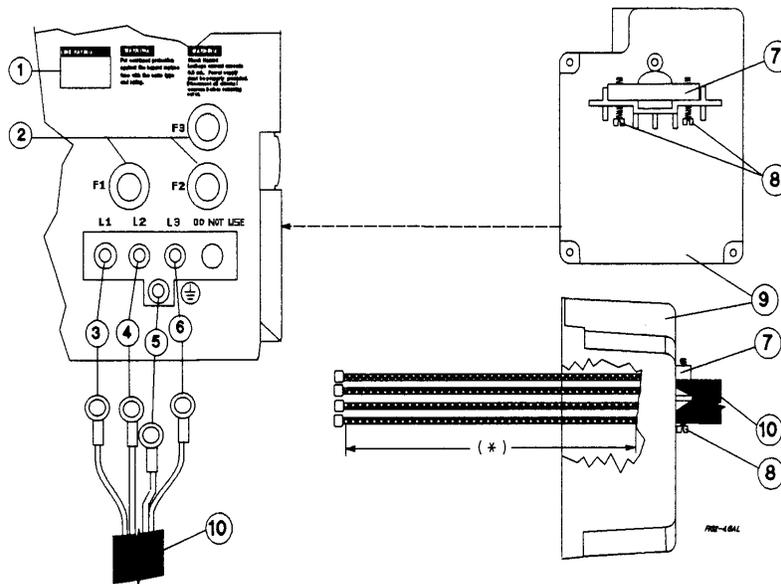

Figure 2-5. Connecting the Series 668xA Power Cord
See Figure 2-5 and proceed as follows:
1. Check the line fuses (2), Figure 2-5) as follows:
- a. Examine the **LINE RATING** label (1) on the rear panel.
- b. Unscrew the line fuse caps (2) from the rear panel and verify that all fuses are as specified on the label. Replace the fuses.
2. Open the line clamp (7) and insert the line cord (10) through the opening.
3. Position the line cord so that the clamp is near the end of the outside insulating sheath. Tighten the screws (8) securing the clamp.
- * Phase 1 (3) to L1. Phase 2 (4) to L2. Phase 3 (6) to L3.
5. Secure the ground wire (5) to the chassis earth ground stud.